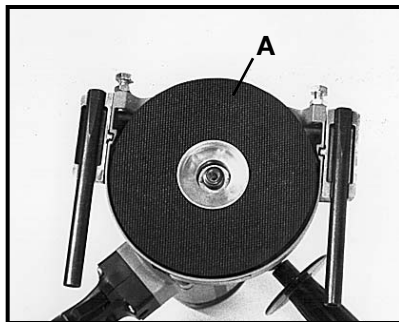

Fig. 7
4. Thread the aluminum and sponge rubber back-up pad (A) Fig. 7 on the machine spindle (Fig. 7). Hand tighten.